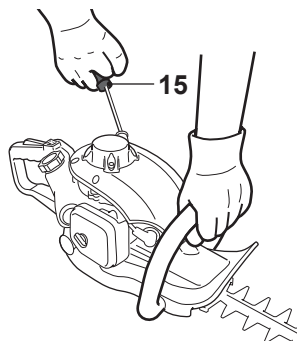

Fig. 11
- > Hold the product stable and pull the recoil starter handle (15) firmly; repeat until the engine starts (Fig. 11).